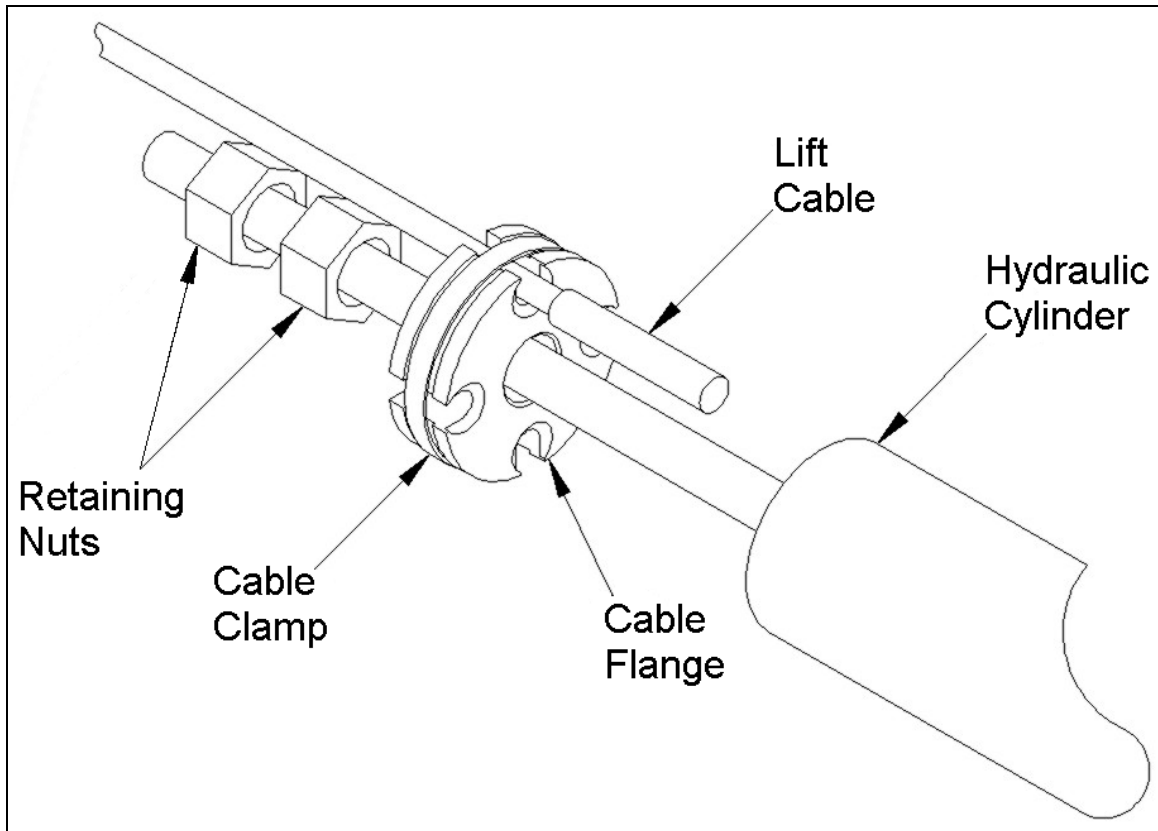

Figure 11. Cable Installation at Flange
- Remove the clamp from the cable flange. Ensure that the cable flange is installed with the counterbores facing towards the hydraulic cylinder as shown in Figure 11 and install the cables.
- Tighten the hose clamp on the cable flange to secure all the cables. Ensure that the two retaining nuts are positioned as shown in Figure 11. Using two wrenches, lock the retaining nuts against each other.